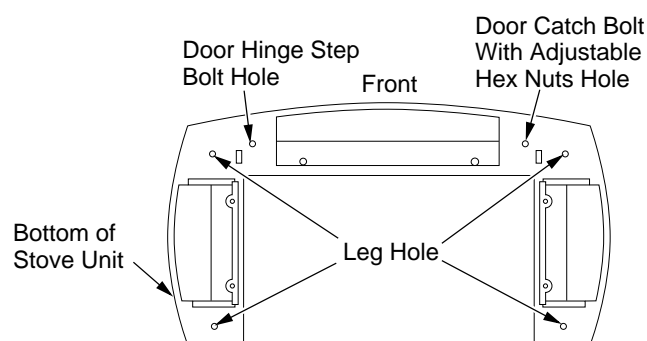
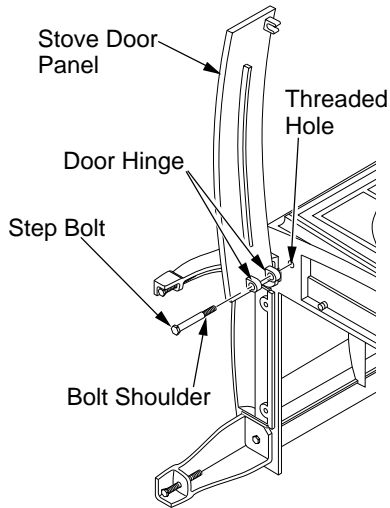
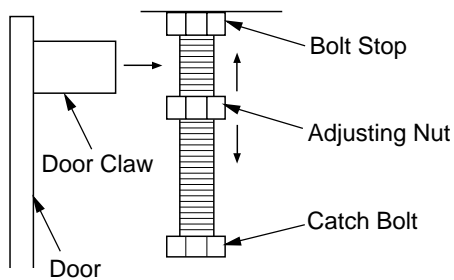

Figure 9 - Locating Threaded Holes for Legs and Door Attachment
Figure 11 - Attaching Lower Stove Door Panel
Figure 12 - Catch Bolt and Door Claw Orientation
9. Fasten each leg to stove with four (4) M8 x 1.25 - 20mm bolts. Use a flat washer and lock washer with each bolt. Tighten bolts into threaded holes on stove body (see Figures 9 and 10). Use an adjustable wrench or a 12mm and 6mm socket.
10. Attach stove door by inserting step bolt through door hinge pivot hole and into threaded hole in stove body (Figure 11 on page 7 and Figure 9). Use an adjustable wrench or a 12mm socket to fasten step bolt. Tighten step bolt until snug. Make sure door moves freely.
11. Install door catch bolt (M8 x 1.25-55mm with two M8 hex nuts) into threaded hole on stove body (see Figure 9). Use an adjustable wrench or a 12mm socket. The catch bolt has two hex nuts attached to it (see Figure 12, page 7). The top nut is a bolt stop and the bottom nut is for door leveling adjustment.